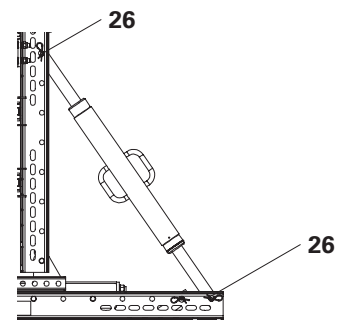

Fig. B8.02b
5. Bolt the Heavy-Duty Spindle SLS (2a) between the Steel Waler SRU U120 (1c) and Steel Waler SRU U120 (1e) using 2x fitting pins Ø 21 mm (26). (Fig. B8.02b)